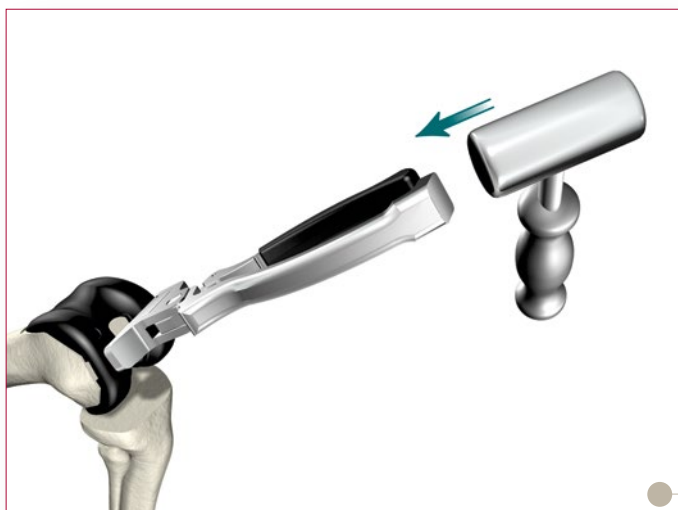

**Figure 32**
- Assemble the appropriate size symmetrical Single-Use PS or CR Femoral Trial to the Femoral Impactor Extractor with the Impaction Handle or use the Femoral Trial Extractor pictured in Figure 32.